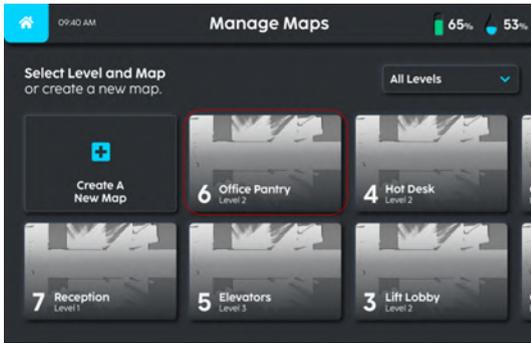

FIGURE 5-1
1. Select the map to be deleted (**Fig. 5-1**).